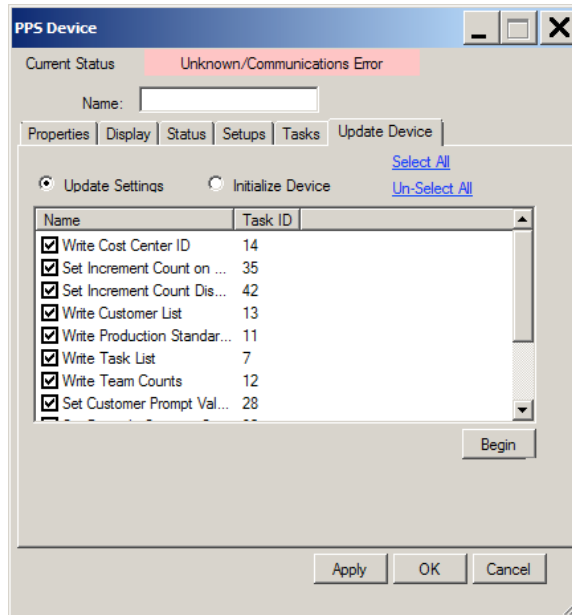

Figure 74. PPS Device dialog: Update Device tab.
3. Click **Begin** (see *Figure 74*).